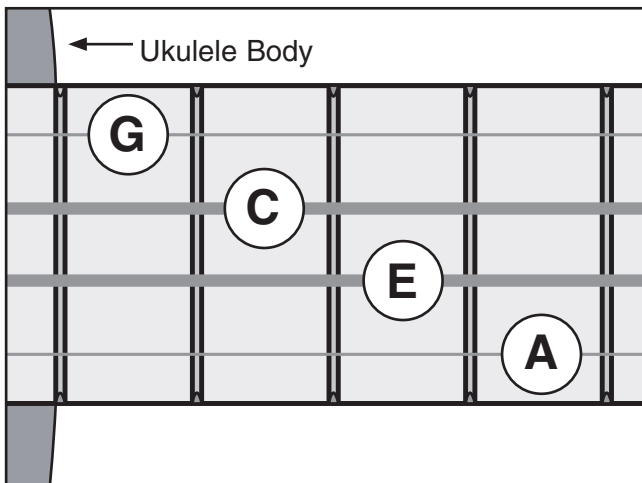

Figure 40. Standard tuning notes.
- The goal when tuning is to make the strings in tune with one another. Standard tuning is shown in **Figure 40**.